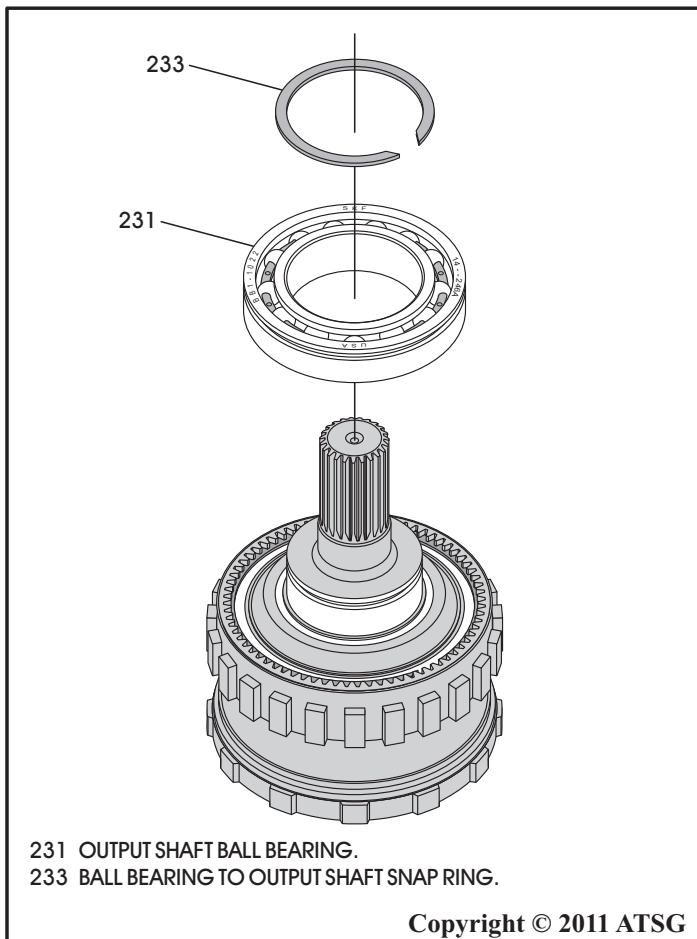

Figure 171
5. Install new ball bearing, as necessary, on output shaft, as shown in Figure 171.
6. Install the ball bearing retaining snap ring, as shown in Figure 171.